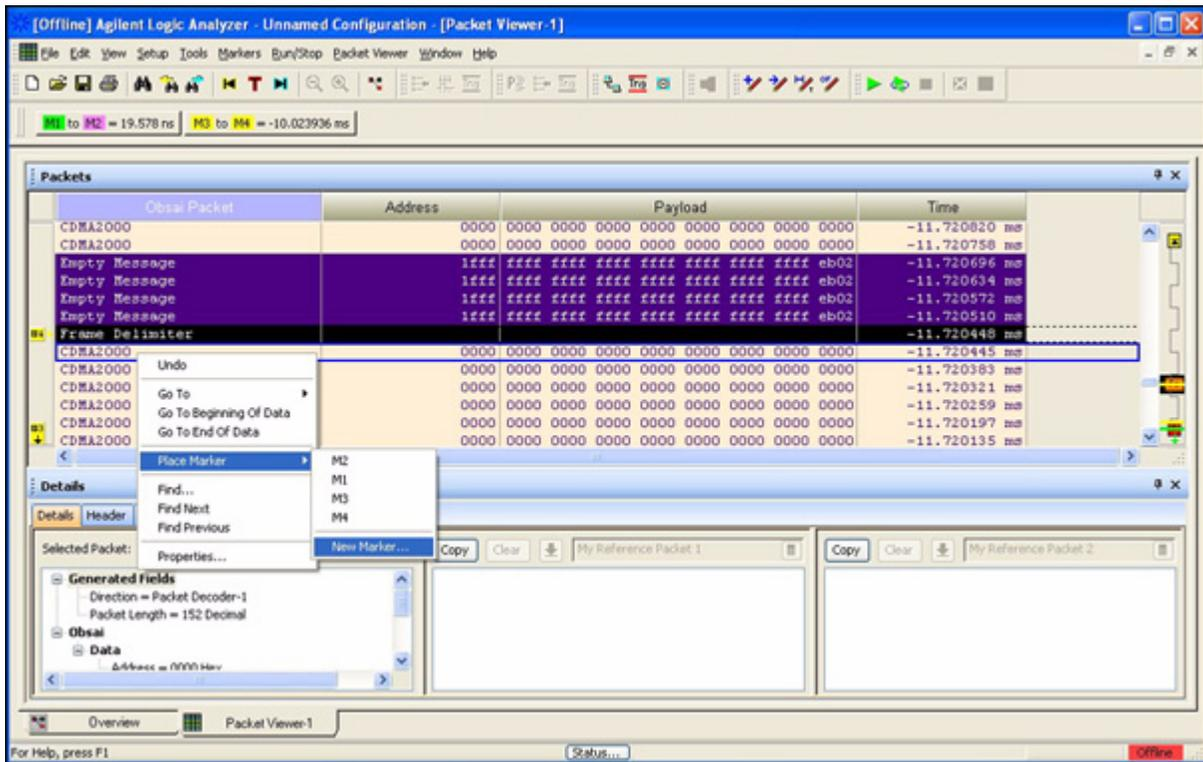

Figure 54 Place Marker
- 2 Right click and goto **Place Marker > New Marker** as shown in the Figure 54.